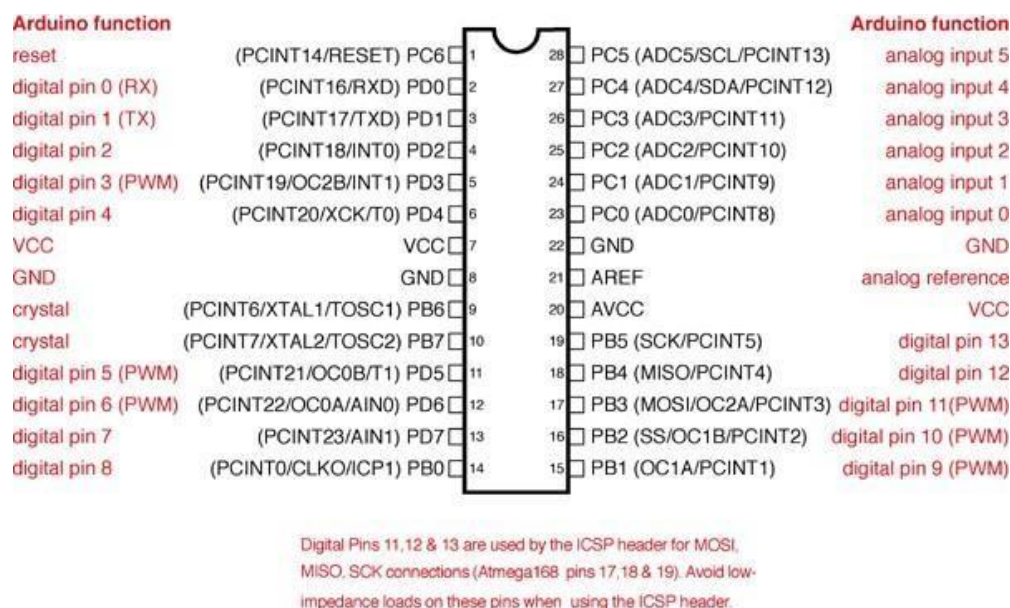

Figure 1 : Pin mapping of ATmega328P to Arduino Uno
**avr-gcc** toolchain doesn't know the Arduino Uno board layout, it only knows the microcontroller that is mounted on it, which is the **ATmega328p**. So, we need to use the *hardware I/O registers and pins* of that particular chip when writing our program. However, we have to use the pins on the Arduino board for connecting to external components (because the chip is already soldered to the board). Figure 1 shows the mapping between the pins of the microcontroller and the pins of the Arduino board.
and output. Some pins have multiple functionalities as well where the alternate functionalities are shown in brackets. For example, *PC6* which is the 7th bit of *Port C* can be used as RESET input, as shown in figure 1. These different pins in the microcontroller are connected appropriately inside the Arduino and the ports are exposed to the outside by different names. For example, the *PB5* pin of the ATmega328p is exposed by the name “digital pin 13” on the Arduino.